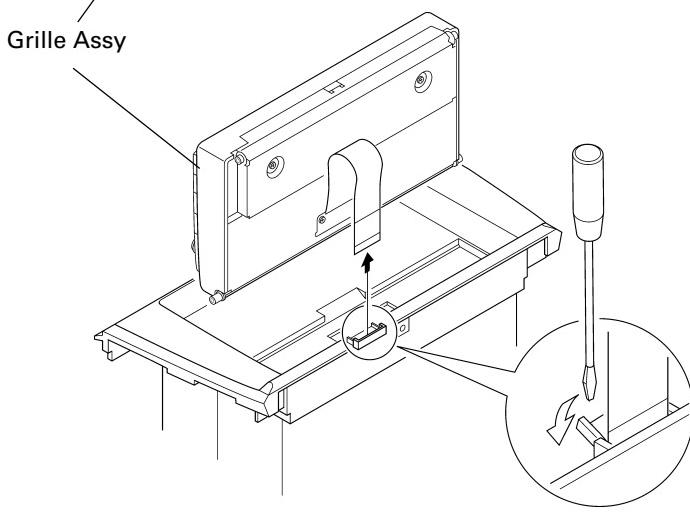

Fig.3
4. Unlock the connector with a standard tip screwdriver and remove the Grille Assy. (Fig.3)